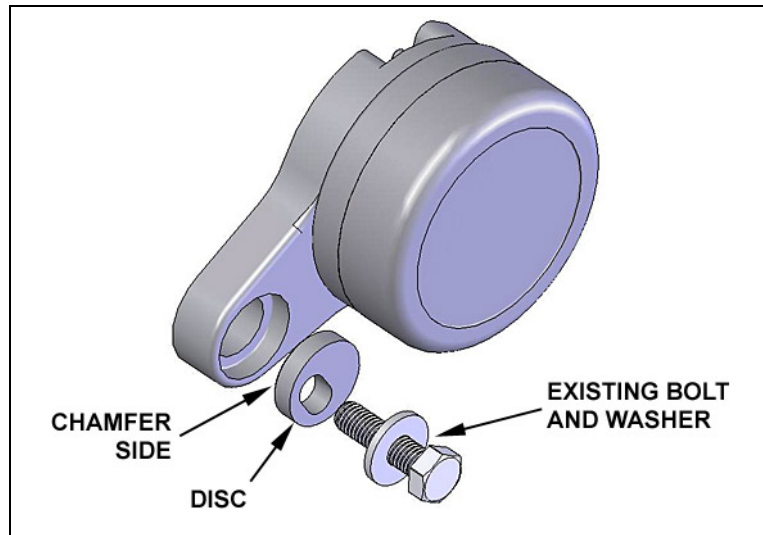

Figure 3.
- c) Install the special slotted Disc into the EPM with the chamfered side in. Disc can be rotated to align with the different mounting holes for the B, D, and H series engines (see figure 3).